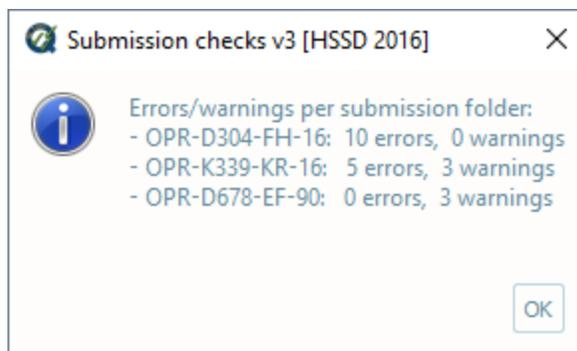

Fig. 2.35: The **Submission check** output message.
- After computing, the output window opens automatically, and the results are shown (Fig. 2.35).